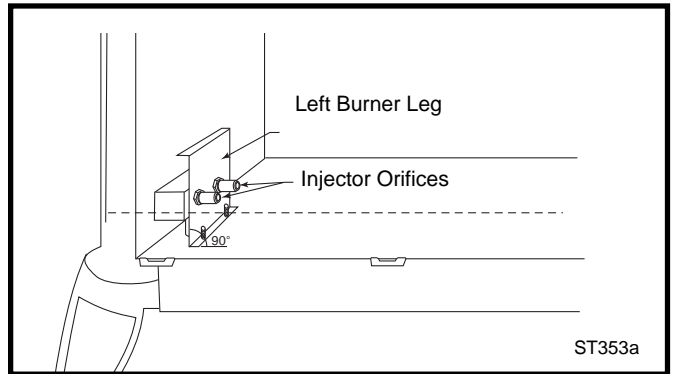

Fig. 58 Remove and replace injector orifices.
14. Remove injector orifices from left burner leg using 1/2" wrench. (Fig. 58)
NOTE: It is very critical to keep the left burner leg, which holds the injectors, at a 90° angle to the base. (Fig. 58) This keeps the orifices aligned with the tubes inside burner. Failure to do so could affect the flame appearance and performance of the unit.